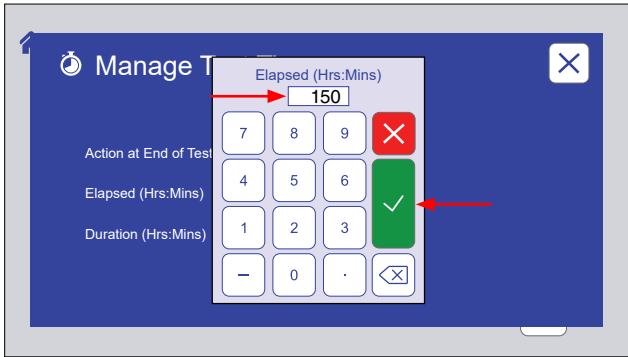

Figure 8.6e: Enter the desired hours on the keypad. Touch the check mark to save, or the X to cancel changes.
- o Set the duration in hours and minutes for the current test (Figure 8.6e).